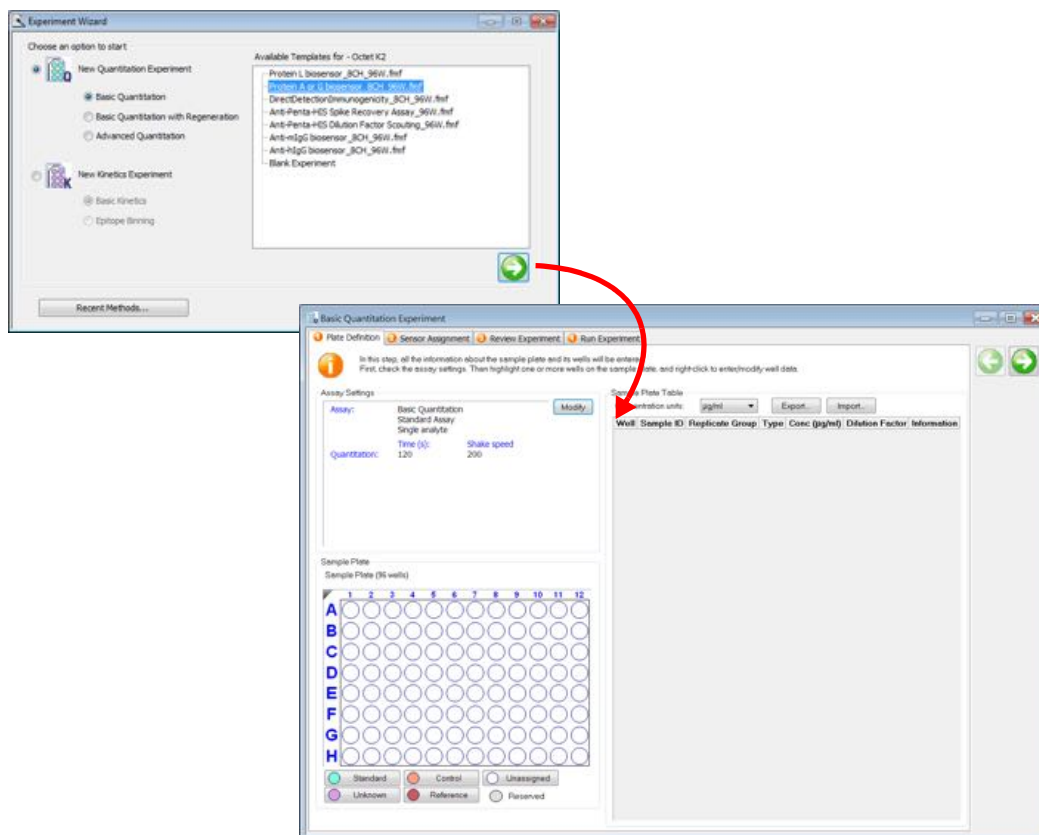

Figure 5-1: Selecting an Experiment Type in the Experiment Wizard
2. In the **Experiment Wizard**, select **New Quantitation Experiment** (see Figure 5-1 left).
The **Experiment** dialog box displays (Figure 5-1 right).